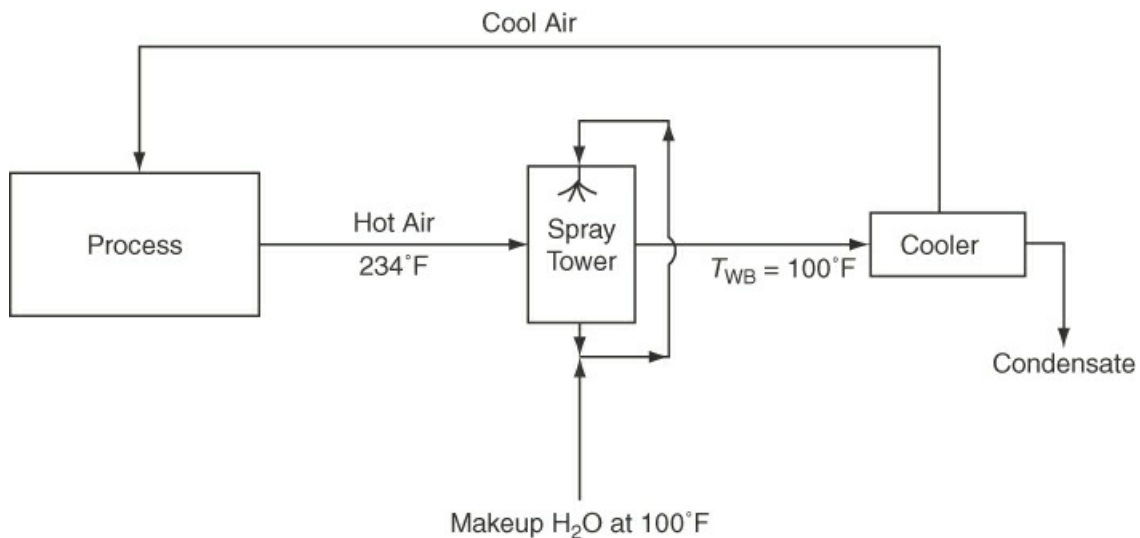

Figure P10.3.9
- **10.3.9** Air is used for cooling purposes in a plant process. The scheme shown in Figure P10.3.9 has been proposed as a way to cool the air and continuously reuse it. In the process, the air is heated and its water content remains constant. It is estimated that the air leaving the process will be at 234°F regardless of the entering temperature or the throughput rate. The air must remove 425,000 Btu/hr from the process. Water for the spray tower is available at 100°F. This tower operates adiabatically with the air leaving saturated. Determine the following: (a) the wet-bulb temperature and percent relative humidity of the air leaving the process; (b) the temperature and dew point of the air leaving the cooler; (c) the psychrometric chart for this cycle; (d) the air circulation rate needed in pounds bone-dry air (BDA) per hour.